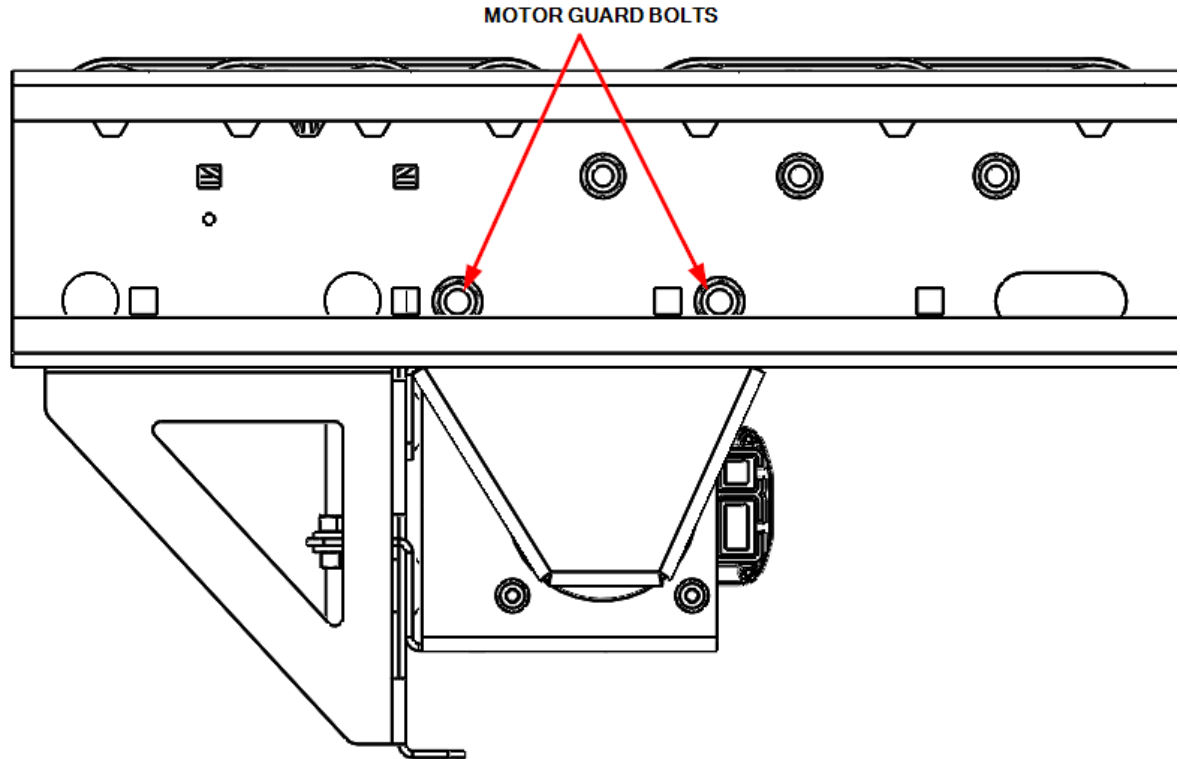

Figure 43: RLVD Motor Guard Mounting Bolts
4. Remove guard from Teknic motor by loosening two bolts as shown in Figure 43.
3. Remove the motor guard by loosening two bolts as shown in Figure 43.
10. Install motor guard using two bolts as shown in Figure 43.
7. Install the motor guard using two bolts as shown in Figure 43. Torque the bolts to 31ft-lbs